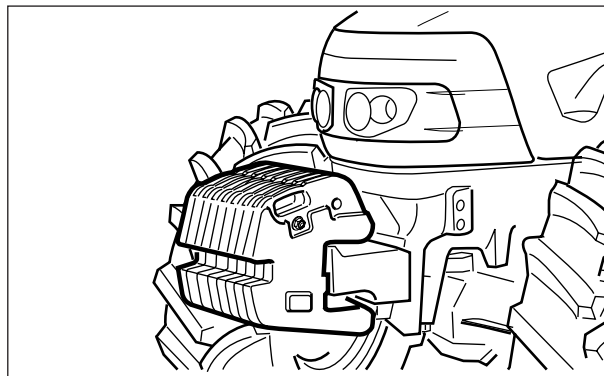

Fig. 2-26
- Use front counterweights to increase tractor stability when towing a heavy load or to counter balance a heavy rear mounted implement (Fig.2-26).